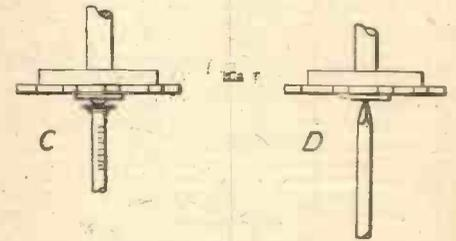

Fig. 3.—Details of foot bearings for vertical axle.
Figure 1 shows the arrow made out of 3/4 in. brass rod, 28 in. long, annealed in the middle and drilled to allow a hacksaw blade to be inserted to make a sawcut 1 1/2 in. long (Fig. 2). A taper drift is now driven into the sawcut and swelled out as in Fig. 3. This should be opened up and fitted to the bottom end of tube A (Fig. 1), and well soldered. This tube should be plugged at top end with a brass insert, the bottom of which is counter-
To take the weight of the vane, etc., and to keep the vertical axle in position, the block (8) is placed on the main post and into it a 4in. nail is fitted. On this rests and rotates the round head of the screw in the dowel end as C (Fig. 3), or if a metal rod is used, the top of the nail must be made into a point as D (Fig. 3).